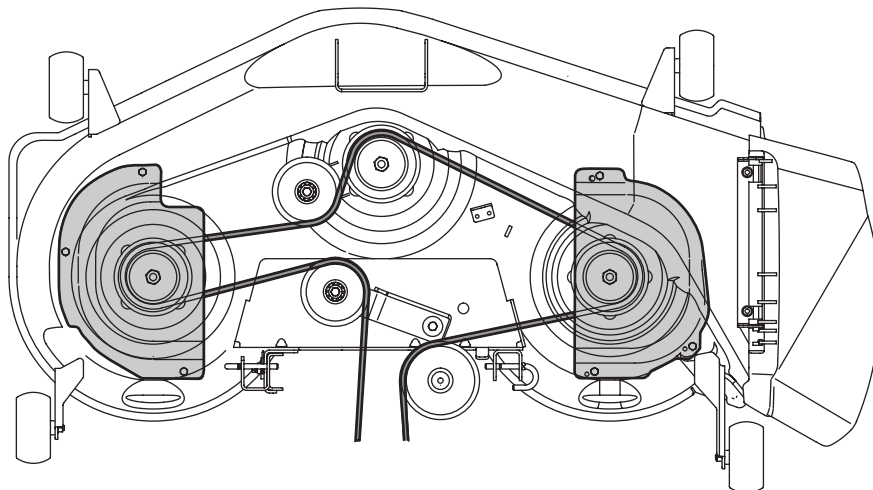

Figure 7-6
- Remove the hex tapping screws securing the belt covers to the deck and remove the belt from the spindle pulleys. Refer to Figure 7-6.
- Install the new belt around the spindle pulleys as shown in Figure 7-6 and reinstall the belt covers.